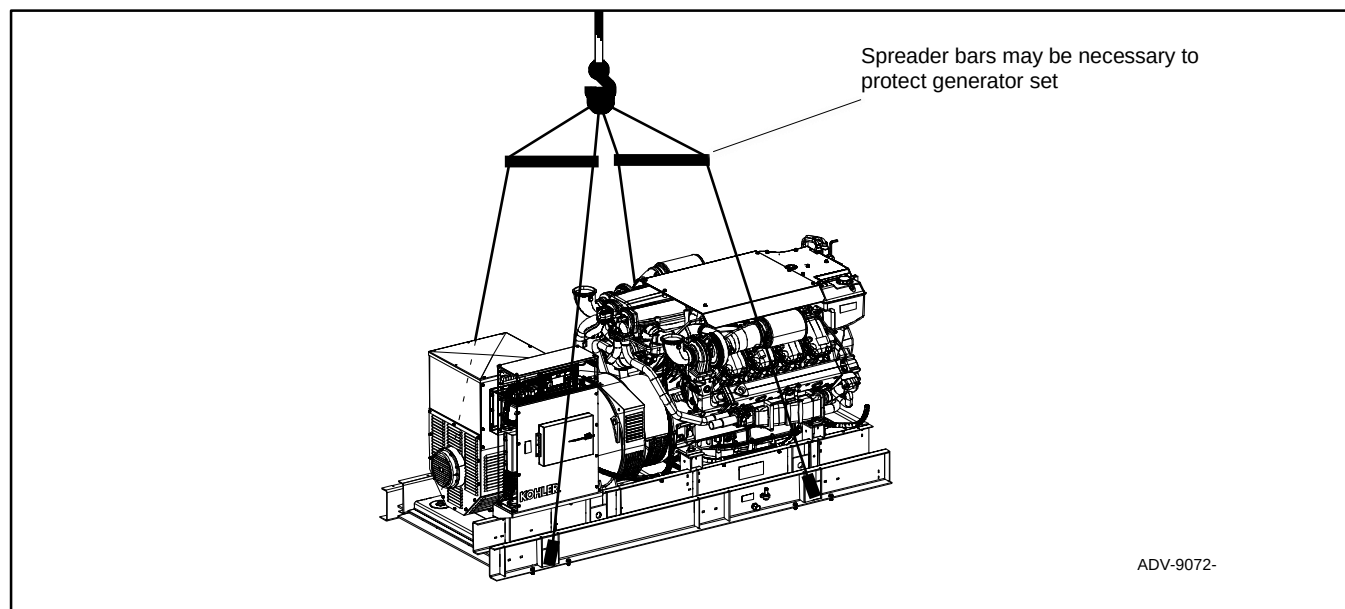

Figure 1 Generator Set with Lifting Hooks in Skid
- Lift the generator set by inserting lifting hooks in the skid's lifting holes. Use an apparatus of hooks and cables joined at a single rigging point. See **Figure 1**. If the cables contact any component of the generator set, use spreader bars slightly wider than the generator set skid to avoid damage to the generator set. Apply only vertical force to the skid while lifting.